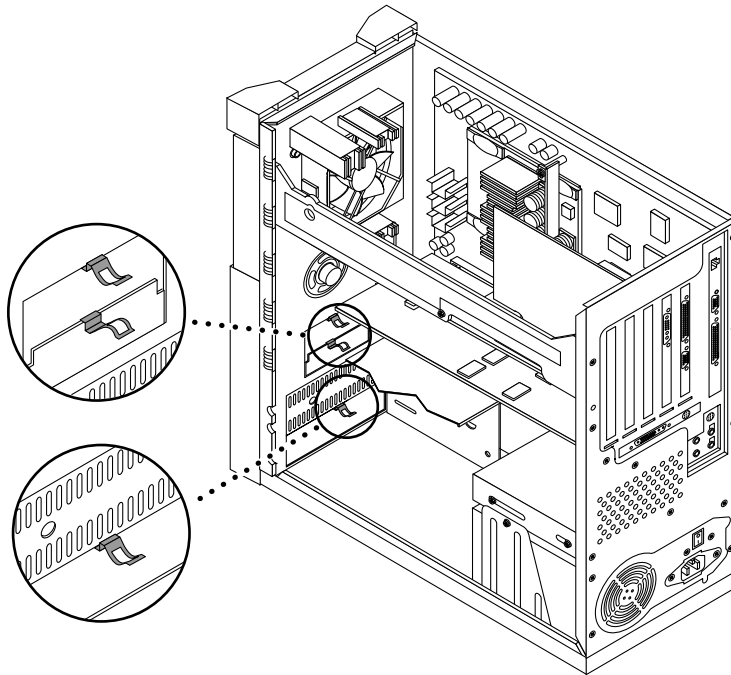

FIGURE 6 Disk Drive EMI Clip Locations
4. **Attach the disk drive EMI clips to the locations shown in FIGURE 6.**